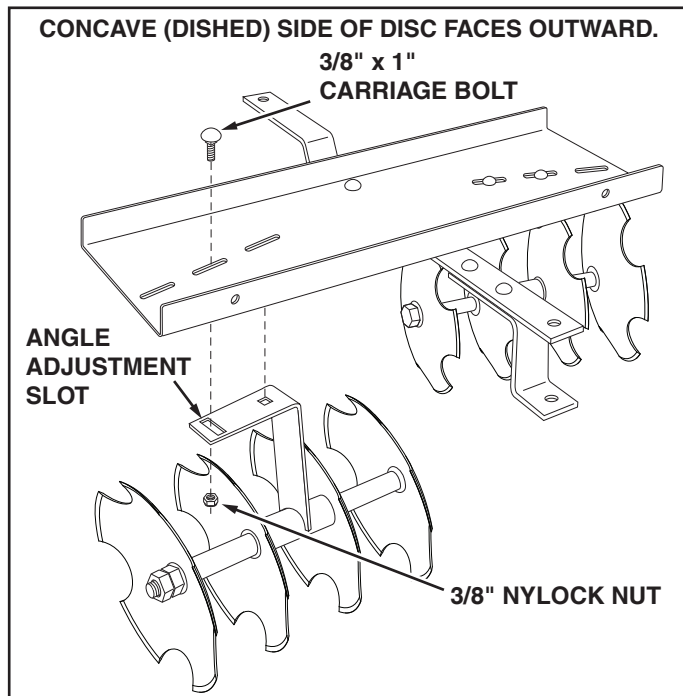

FIGURE 4
5. Assemble the disc assemblies to the tray using four 3/8" x 1" carriage bolts and 3/8" nylock nuts. Swivel the disc assemblies so that the carriage bolt is centered in the angle adjustment slot. **Tighten.** This places the discs at the standard 15 degree angle. See figures 4 and 5.
The front cultivator should be assembled as shown in figure 4. The rear cultivator should be assembled using the following instructions. Note that the position of the tray and drawbar are the reverse of the front cultivator.